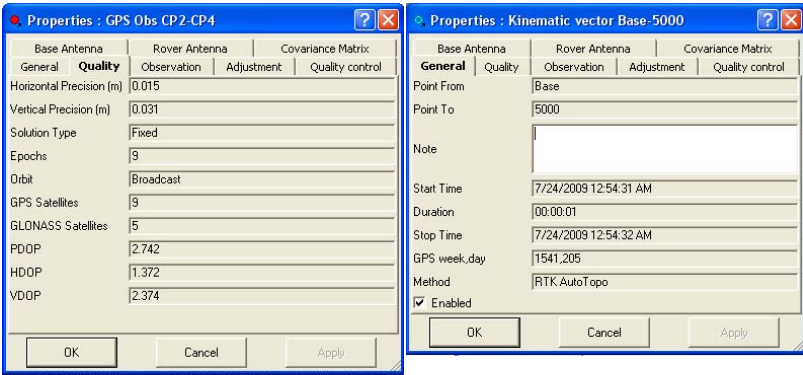

Figure 5-109. General Properties
- View or edit *General* tab fields (Figure 5-109); available fields differ depending on the type of observation selected.